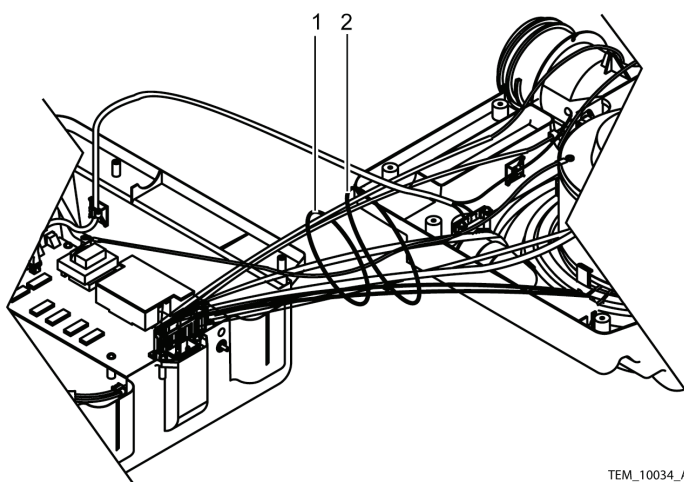

Figure 40. Cable Harness Bundle Ties
5. Cut the cable harness bundle ties. See Figure 40, items 1 and 2.